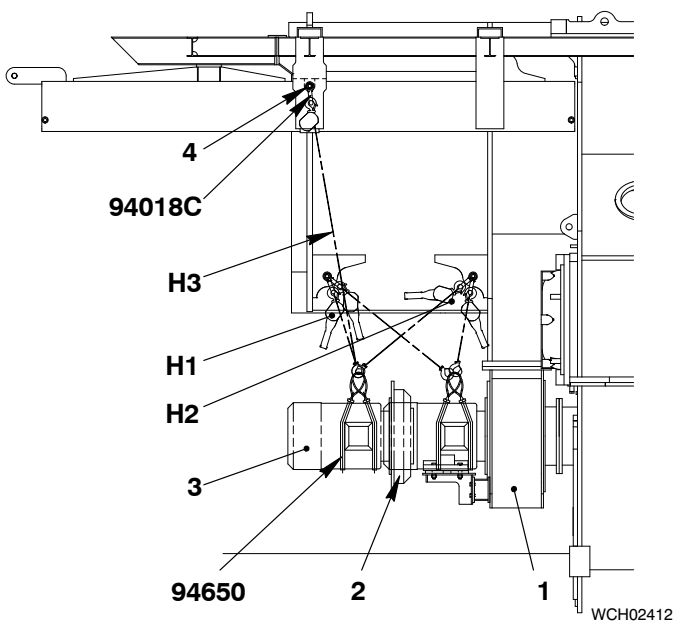

Fig. 5
- 6) Attach the chain block (H3, Fig. 5) to the slings (94650).
- 7) Put sufficient tension on the chain block (H3) to hold the electric motor (3) and impeller (2).
**Note: When you do step 10, make sure that the electric motor (3) and impeller (2) stay horizontal.**
- 10) Operate the manual ratchets (H1, H2) and the chain block (H3) to move the electric motor (3) and impeller (2) into the casing (1).